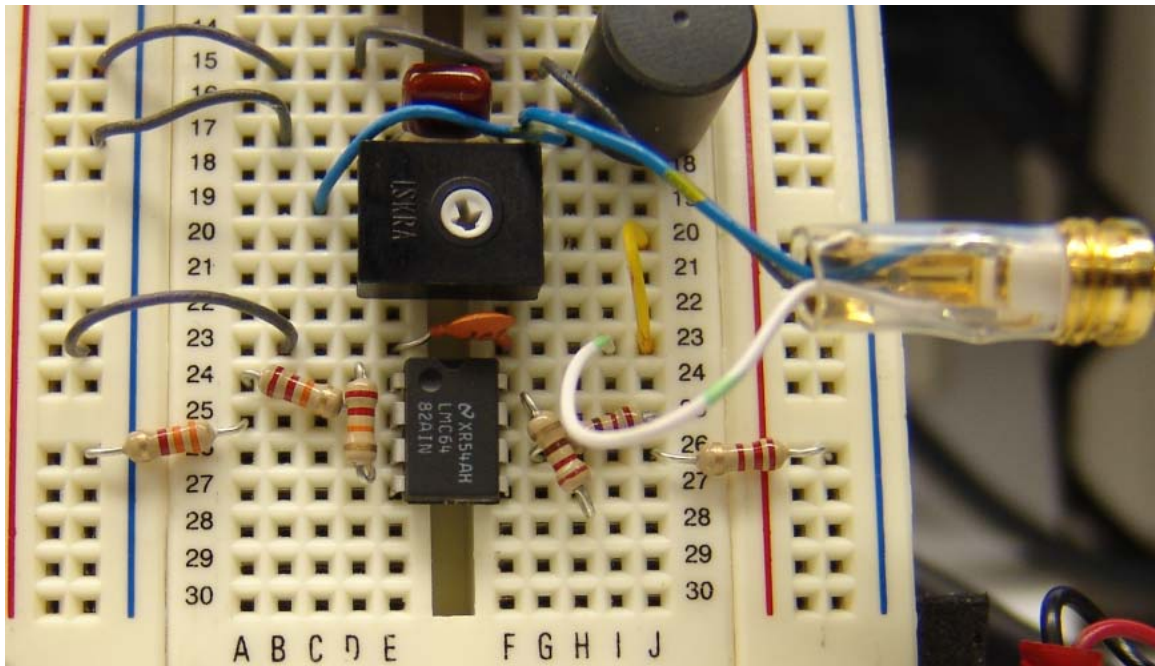

Figure 18. Connect the terminals of the audio plug. The middle terminal goes to G15, the other two go to G17 and I23.
14. Now, unscrew the audio plug housing. This should reveal three wires, refer to figure 18 for the correct connection. The middle wire goes to the negative terminal of the battery, the other two go to the capacitor.